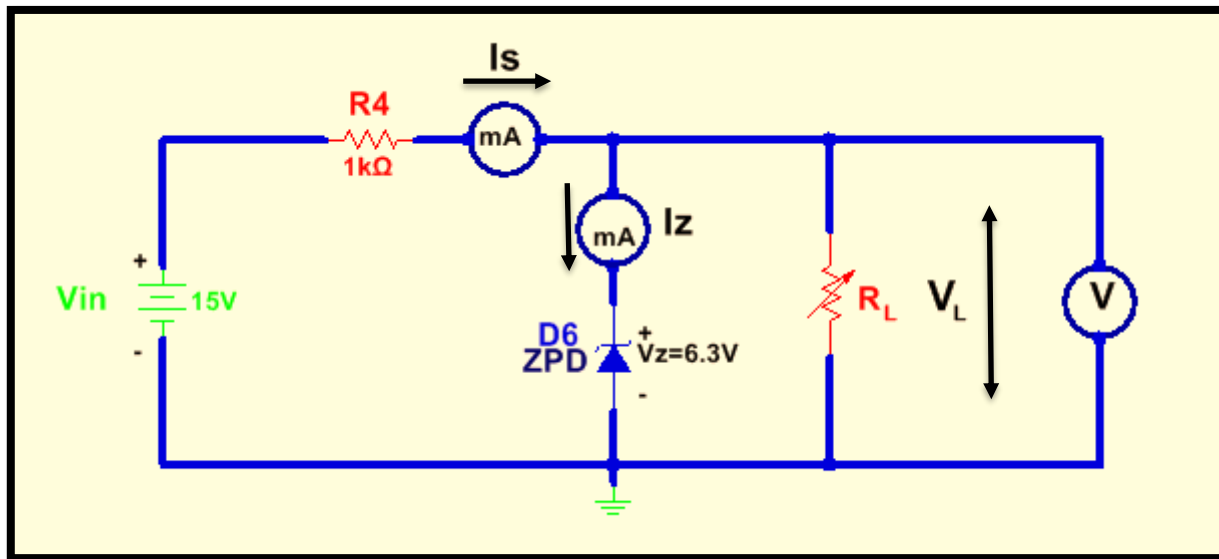

Figure 8: Practical Circuit for Zener Diode Voltage Regulator with Variable Load Resistor
2. Connect the voltage regulator circuit shown in Fig.8, and vary the load resistor R_L in several steps as shown in Table 2. Record V_L , I_S , I_Z , and I_L where $I_L = I_S - I_Z$.
Table 2: Recorded Data for the Voltage Regulator Circuit of Figure 8
4. For the zener diode voltage regulator circuit of Fig.8, sketch the relation between V_L and I_L (V_L versus I_L). Plot the relation between I_S and R_L . Sketch also the relation between I_Z and I_L . Comment on the resulting curves.
5. Calculate the theoretical minimum value of R_L required for putting the zener diode in the zener breakdown region for the regulator circuit of Fig.8. What value of load resistance results in the maximum zener current? Determine the maximum Zener current $I_{Z(max)}$ in this case and compare it with I_{ZM} .